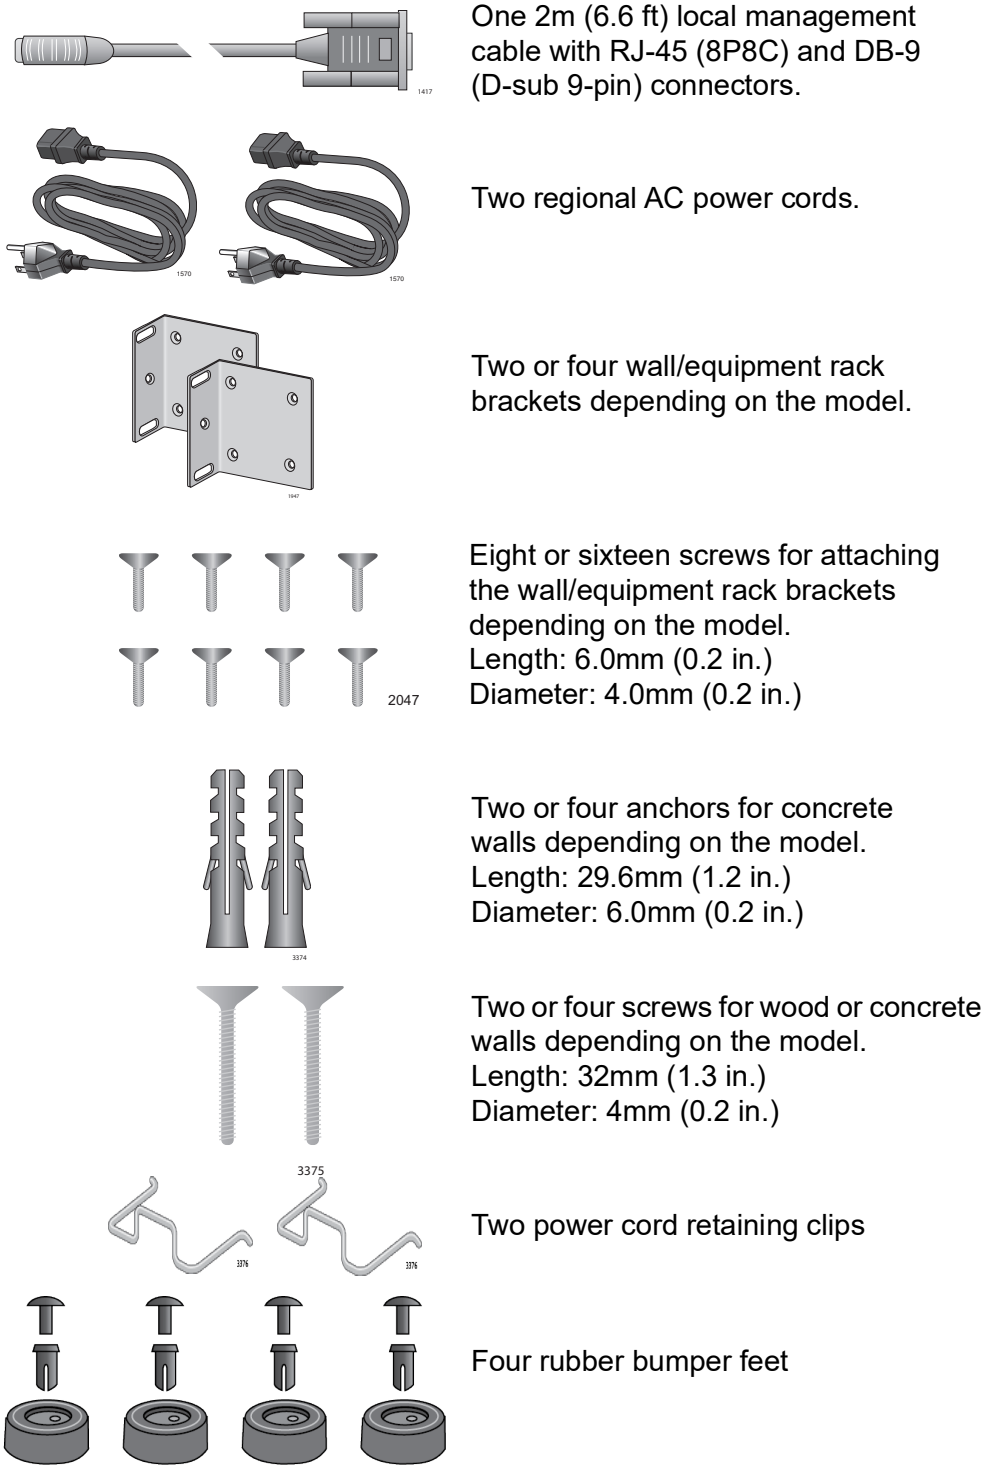

Figure 24. Accessory Kit Items
- ❑ Accessory kit (refer to Figure 24 on page 80)
Figure 24 lists the items that are included in the accessory kit. Contact your Allied Telesis sales representative for assistance if any item is missing or damaged. See “Tools and Material” on page 95 for a detailed list.